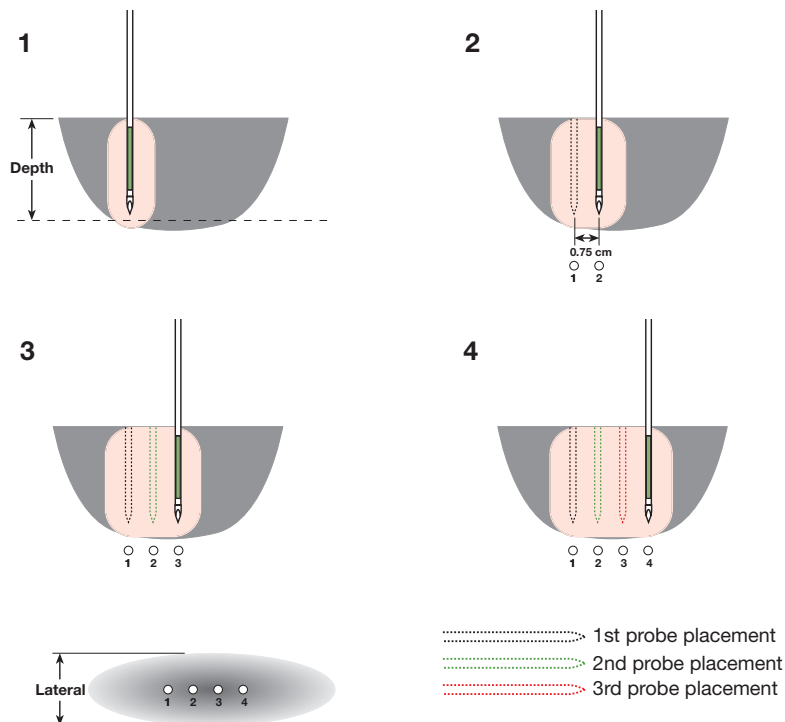

Figure 4-29: Single-Probe Planar Coagulation probe placement
3. Use Figure 4-29 as guidance for probe placement. Insert the probe into the target tissue.
Important: Ensure that the probe is inserted at least 1 mm beyond the solid green area of the probe as noted in Figure 4-29. If the probe is inserted to a more shallow depth, a reflected power error may occur. If a more shallow insertion depth is used, a reflected power error may occur.